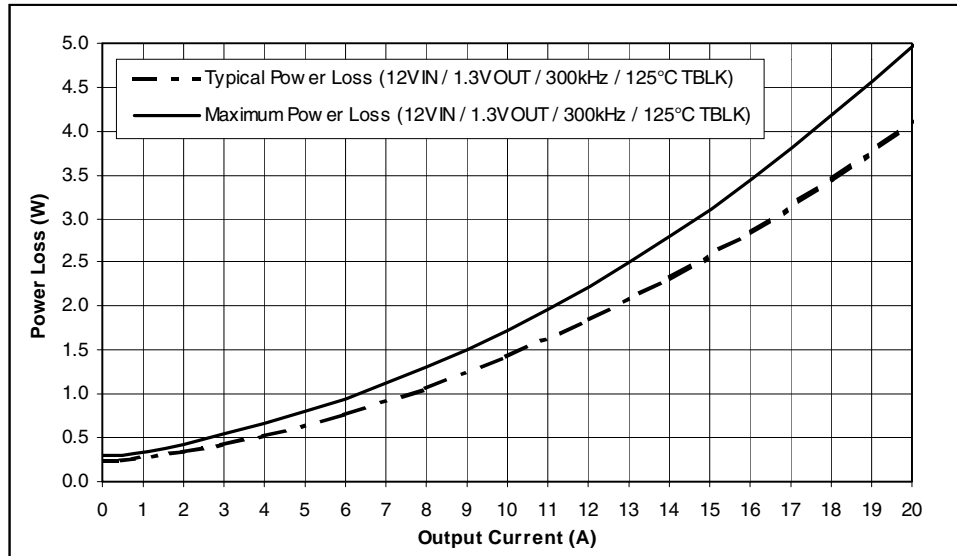

Fig 1. Maximum & Typical Power Loss vs. Output Current
- ① Can be modified to operate down to $2.5V_{IN}$. See reference design for details.
- ② Can be modified to operate up to $3.3V_{OUT}$, outside of DAC settable range. See reference design for details.
- ③ Only buck configurations allowed, ie $V_{IN} \geq 1.25V_{OUT}$.
- ④ See figures 1 & 3.
- ⑤ See reference design for ILIM R7 resistor setting details.
- ⑥ See curve for output current rating versus input voltage.